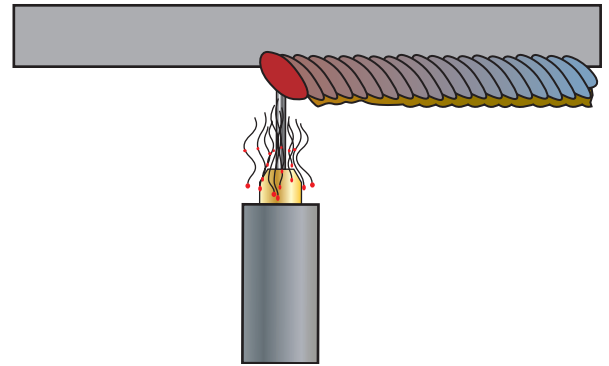

FIGURE 13-17 Weld spatter can collect in the nozzle when using the overhead position.
- *Weld spatter*—the weld nozzle is directly under the weld in the overhead position and so more weld spatter can collect in the nozzle, causing gas flow problems or even shorting the tip to the nozzle, Figure 13-17.